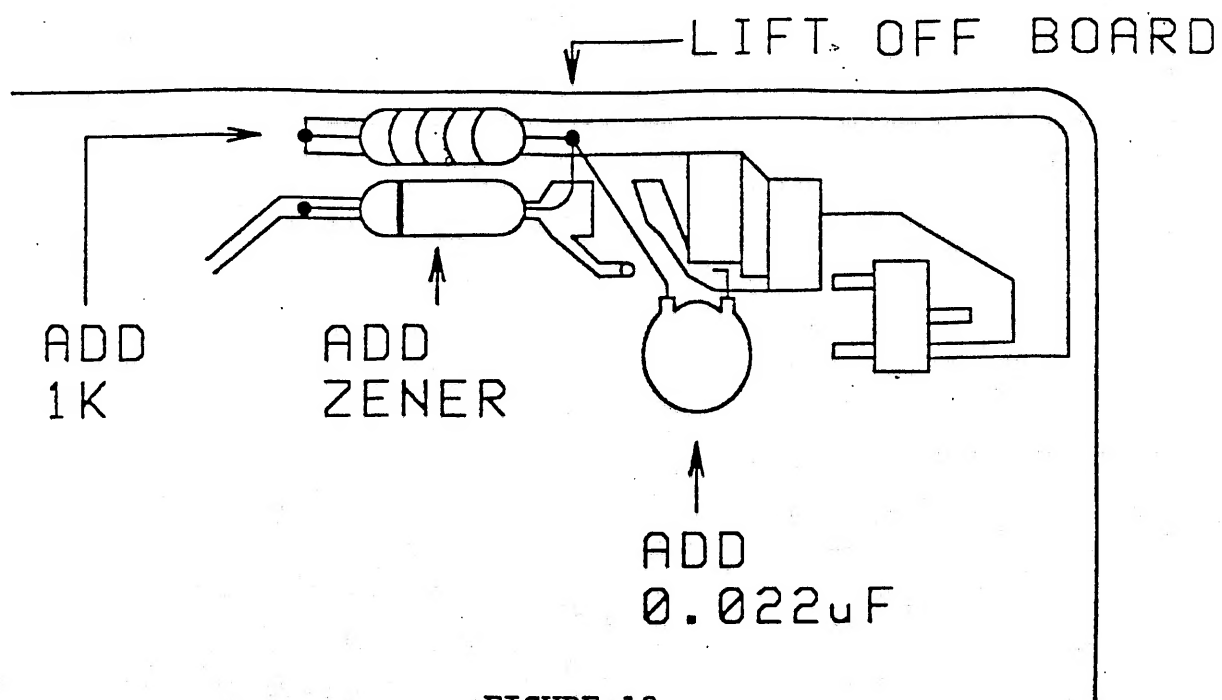

FIGURE 12
26. Place the 3.0V zener diode on the board. Size and cut the diode's cathode lead. Solder the lead to the board. Figure 12
27. Place the 1K ohm resistor on the board. The body of the resistor must be parallel to the diode. Size and cut the resistor's left hand lead. Solder the lead to the board. Figure 12
28. Bend the diode's anode lead and solder it to the resistor's right hand lead. Do not allow the leads to touch the board. Trim the leads after soldering. Figure 12
29. Prepare the 0.022uF capacitor for installation. Place the component on the board to size and cut the leads. Figure 12
30. Solder the left hand lead to the junction of the zener diode and 1K resistor. Do not let the connection touch the board. Figure 12
31. Solder the right hand lead to the board as shown. Figure 12